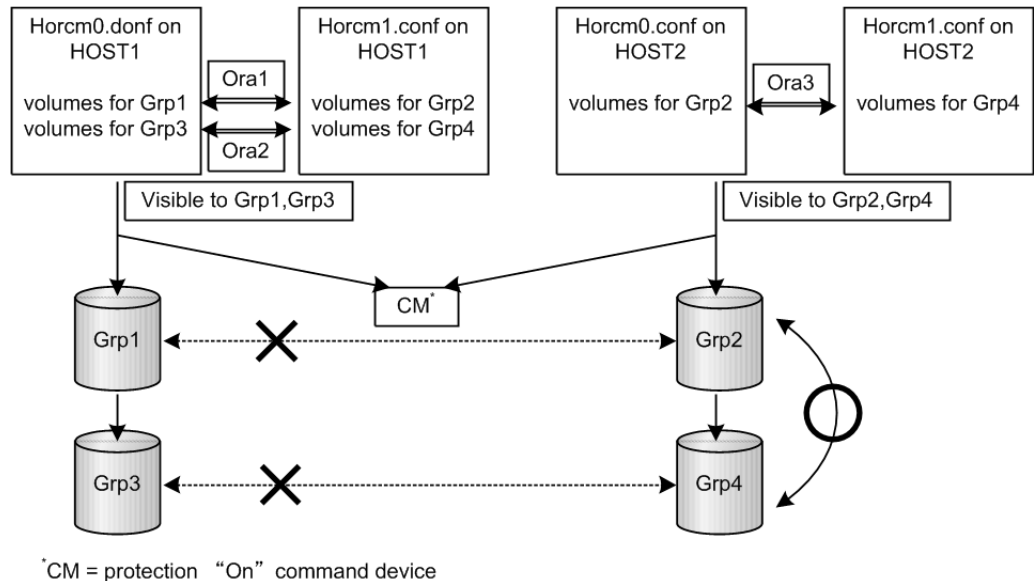

Figure 7-3 Example for the one-host configuration
Case (2): One Host (Figure 7-3 Example for the one-host configuration on page 7-9). In protect mode Ora1 and Ora2 are rejected to operate the paired volume, because of Unknown for Grp2 and Grp4 on HOST1. If HOST1 has a protection OFF command device, then Ora1 and Ora2 are permitted to operate the paired volume.